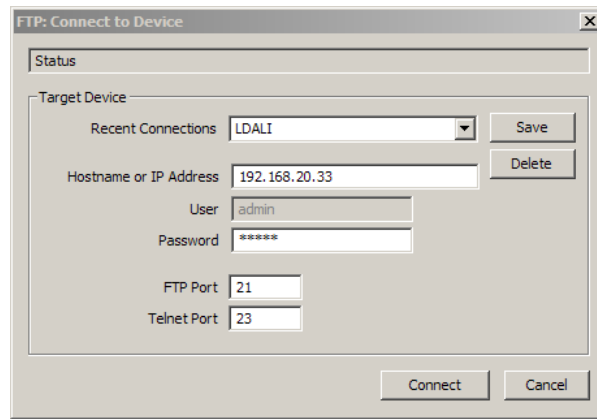

Figure 161: FTP connection dialog.
2. Select the menu: **Connection → Connect via FTP**. This opens the FTP connection dialog as shown in Figure 161.